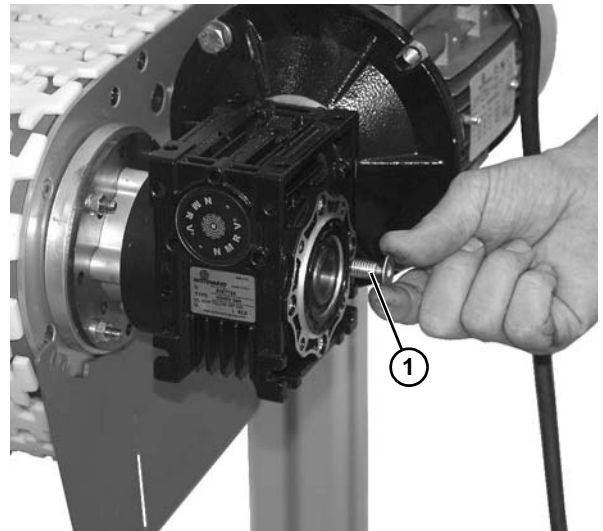

Figure 16
4. Install and tighten flat head screw (Figure 16, item 1) onto the drive shaft.